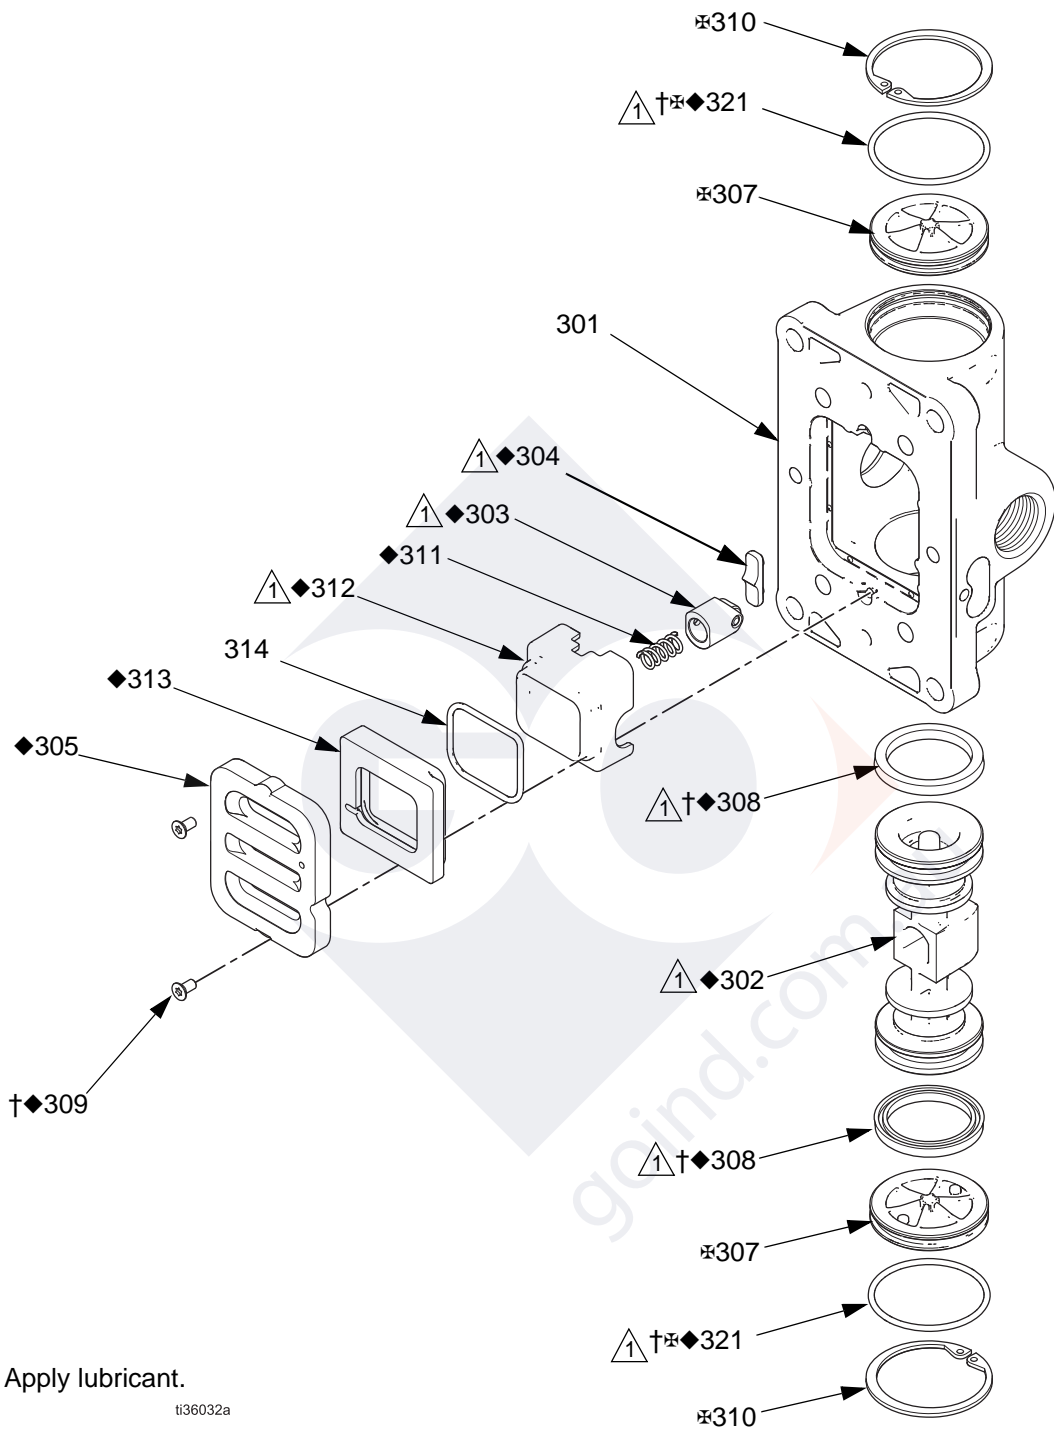

FIG. 12
Use FIG. 12 and the following table to identify the kits needed for replacements:
2. See FIG. 12. Use a 2 mm or 5/64 in. hex key to remove two screws (309†♦). Remove the valve plate (305♦), cup (312♦), and spring (311♦).
3. See FIG. 12. Remove the snap ring (310♦⌘) from each end. Use the piston to push the end caps (307⌘) out of the ends. Remove end cap o-rings (306†⌘♦).
1. See FIG. 12. Lubricate detent cam (304♦) and install into housing.
3. See FIG. 12. Lubricate both ends of the piston (302♦) and install it in the housing.